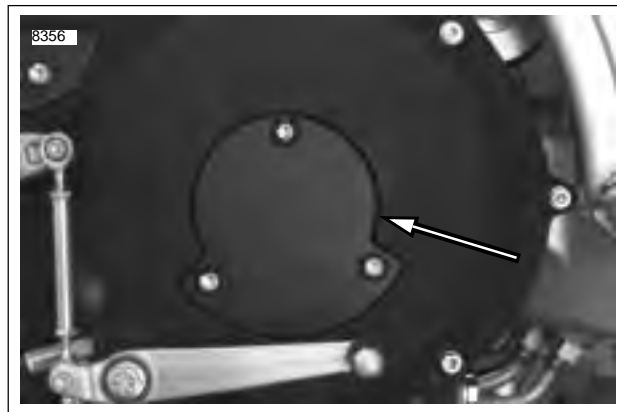

Figure 1-19. Clutch Inspection Cover
6. See Figure 1-19. Install clutch inspection cover tightening three fasteners and washers to 84-108 **in-lbs** (10-12 Nm).
3. See Figure 1-19. Remove three fasteners and washers from clutch inspection cover. Remove clutch inspection cover and gasket from primary cover.
- c. Tighten jam nut (3) against adjuster (4).
- d. Slide boot (1) over cable adjuster mechanism.
8. See Figure 1-19. Install clutch inspection cover and gasket using three fasteners and washers and tighten to 84-108 **in-lbs** (10-12 Nm).